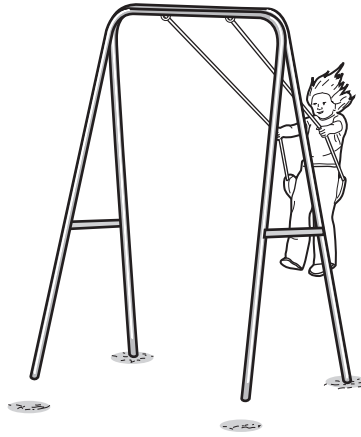

Fig. 1
- 2 Fig. 1 shows a child playing on a garden swing.